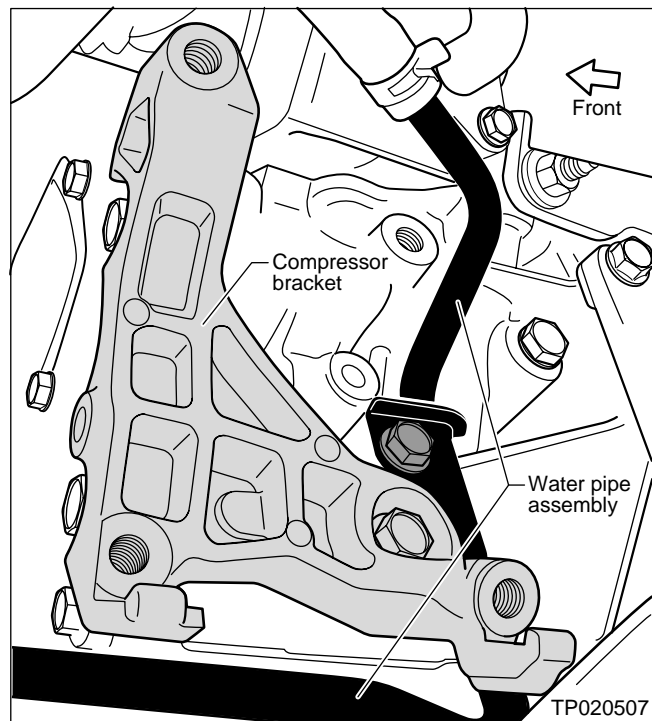

Figure 2
7. Install the new water pipe assembly from the Air Conditioner Kit (see PARTS INFORMATION section). See Figure 2 for view of water pipe assembly installed.
9. Install the new compressor bracket (from the Air Conditioner Kit) onto the engine. See Figure 2 (page 3) for a view of the compressor bracket installed.